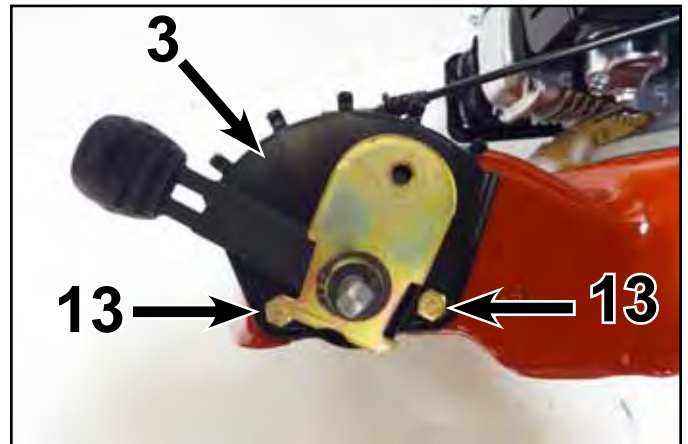

Fig. 154
- Remove (2) screws (#13) from each height-of-cut plate (#3) (Fig. 154).